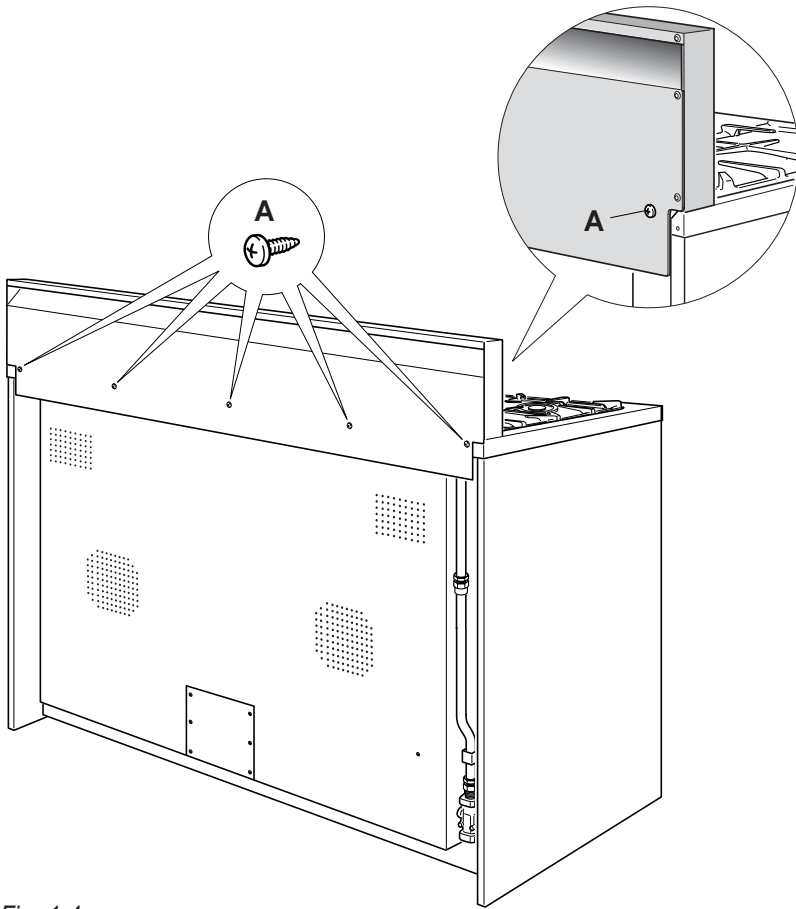

Fig. 1.4
- Assemble the backguard or the island trim as shown in figure 1.4 or 1.5 and fix it by screwing the 5 screws "A".